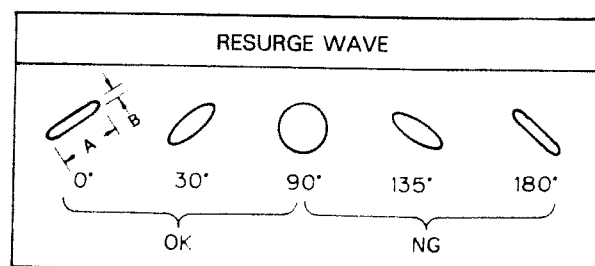

Fig. 2-2
- (2) Playback (both FWD side and REV side) the test tape; adjust the azimuth screw so that section A of the surge wave form is maximum and section B is minimum. **Fig. 2-2**